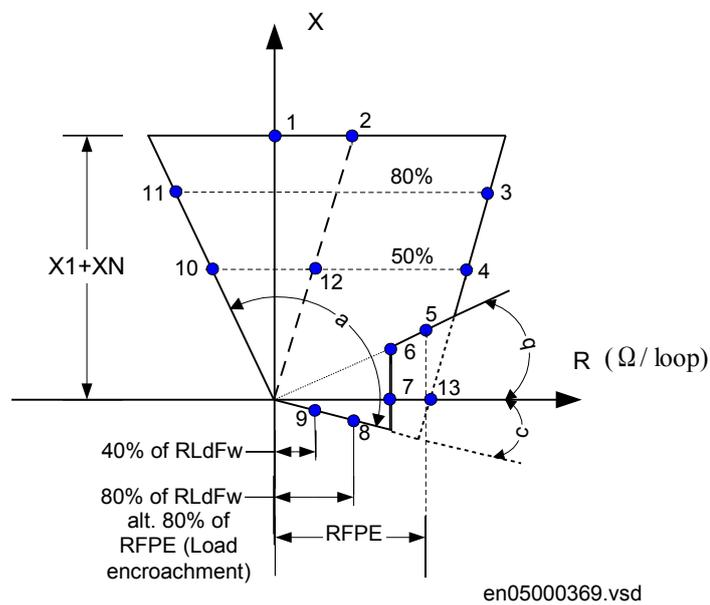

Figure 56: Distance protection characteristic with test points for phase-to-earth measurements
Table 22 is used in conjunction with figure 56.
4. Repeat steps 1 to 3 above to find the operating value for the phase-to-earth fault L3-E according to figure 56 and table 22